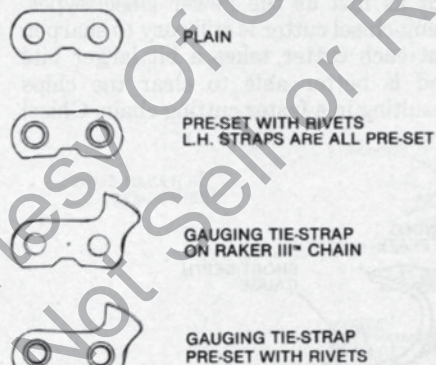

Fig. HC15—View of various types of tie-straps.
a) Variations. Refer to Fig. HC15 for view of various types of tie-straps.